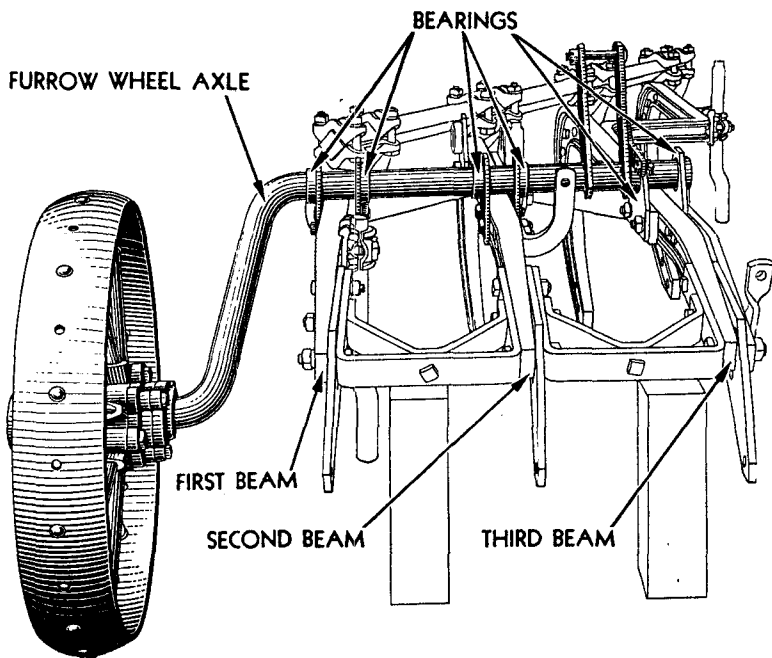

FIGURE 3—ASSEMBLING FURROW AXLE
2. **BEAM AND FURROW AXLE.**—(Figure 3.) Set the beam assembly (often referred to as frame) in a working position on a floor or other level surface. Place blocks under front end so it will not tip over. Place furrow wheel axle in position, inserting the end of axle through the bearings which are already attached to third beam. Then bolt the bearings assembled on the axle to the first and second beams.
3. **FURROW WHEEL.**—(Figures 3 and 4.) Remove the hub cap and all bearing parts. Place dust cap, grease seal felt and wheel box on axle. Be sure the dust and grease seal felt is carefully placed in dust cap. Place two wearing washers on axle. Place bearing sleeve on axle and pin rigidly to axle. Put on wheel. Place two bearing washers, then hub cap on sleeve and bolt tight. Put long bolts through dust cap and wheel box, and short bolts through wheel box only. While assembling, grease